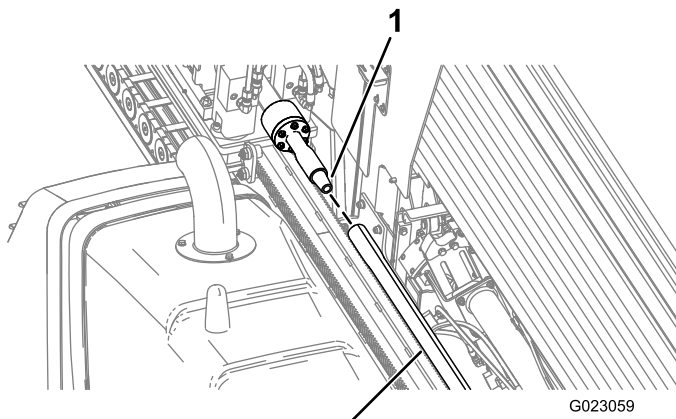

Figure 50
6. Rotate the drill spindle clockwise and move the carriage slowly forward to insert the spindle into the female end of the pipe (Figure 50).
- Rotate the drill spindle clockwise and move the carriage slowly forward to insert the spindle into the female end of the pipe (Figure 50).